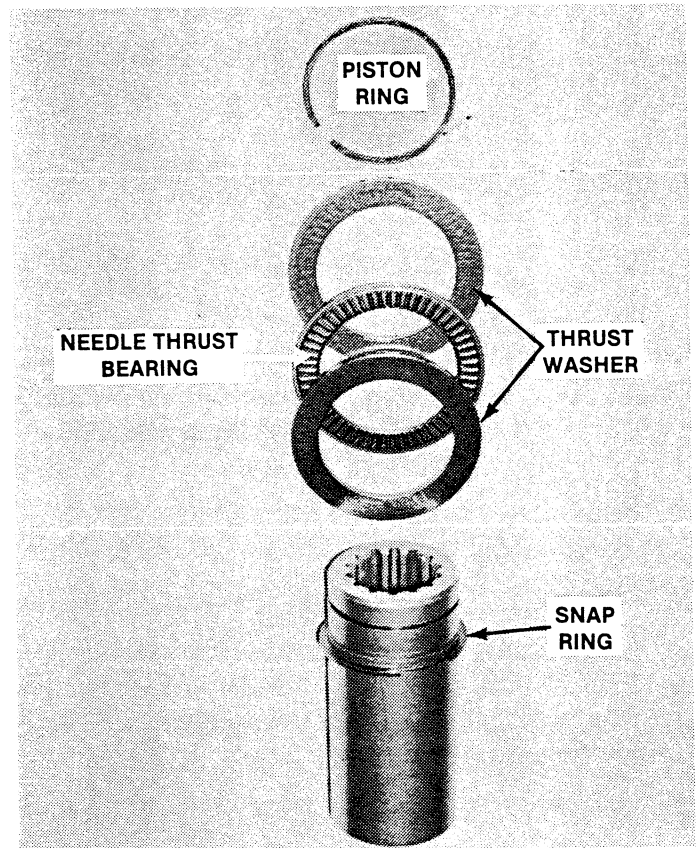

Figure 10-1. Pump Drive Coupling Partially Disassembled.
2. Assemble pump coupling assembly (Figure 12-1, 36) in the order shown in Figure 10-1.